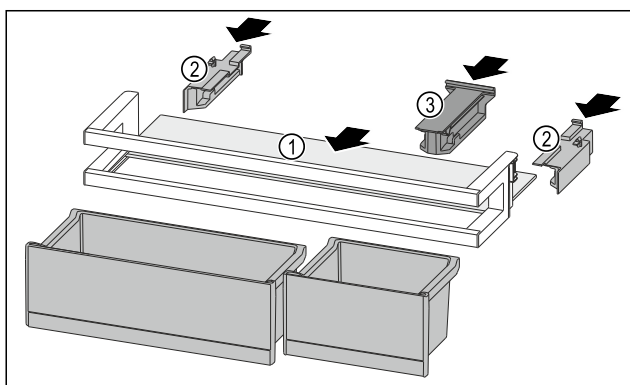

Fig. 242
- Push the shelf Fig. 242 (1) into the side recesses.
- Insert the side parts Fig. 242 (2).
- Insert the holding part Fig. 242 (3).